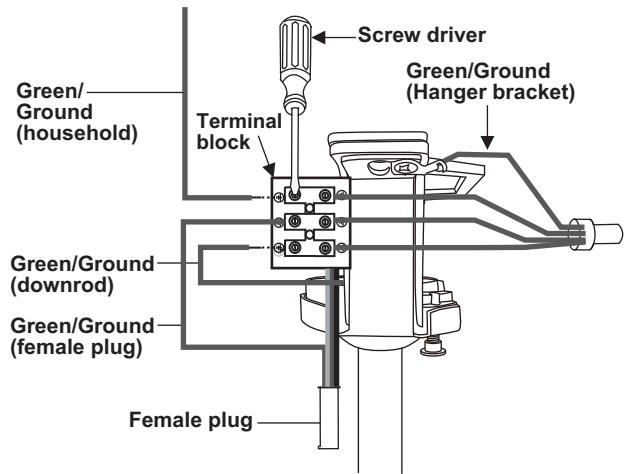

Figure 8
2. Connect the green/ground wires from the downrod ball to the terminal block “⊖” hole. (Fig. 8 & 11)
3. Connect the green/ground wires from the household and ceiling fan to the terminal block “⊖” hole. (Fig. 8 & 11)